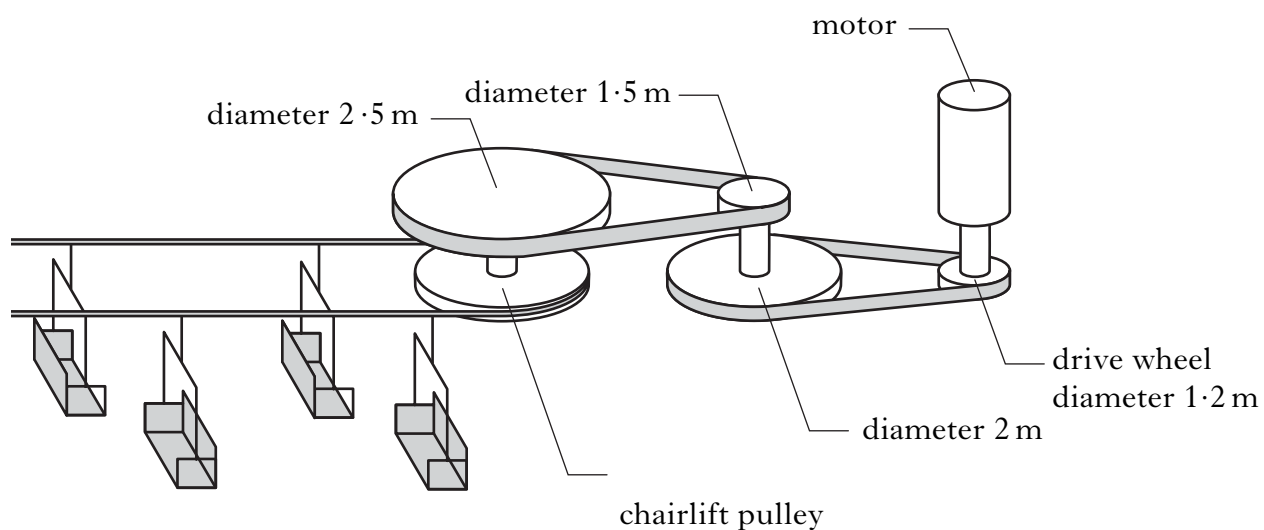

Figure Q7
7. The belt drive system used in a chairlift is shown in Figure Q7.